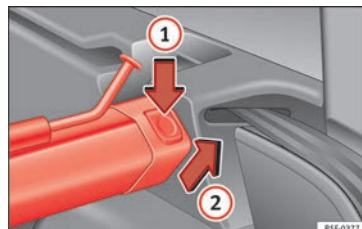

Fig. 168 In the luggage compartment: removing the net partition.
- Press the left or right release catch »» Fig. 168 in the direction of the arrow ①.
- Remove the casing from the support in the direction of the arrow »» Fig. 168 ②.
- Press the casing into the left and right supports »» Fig. 168 ② until it engages.